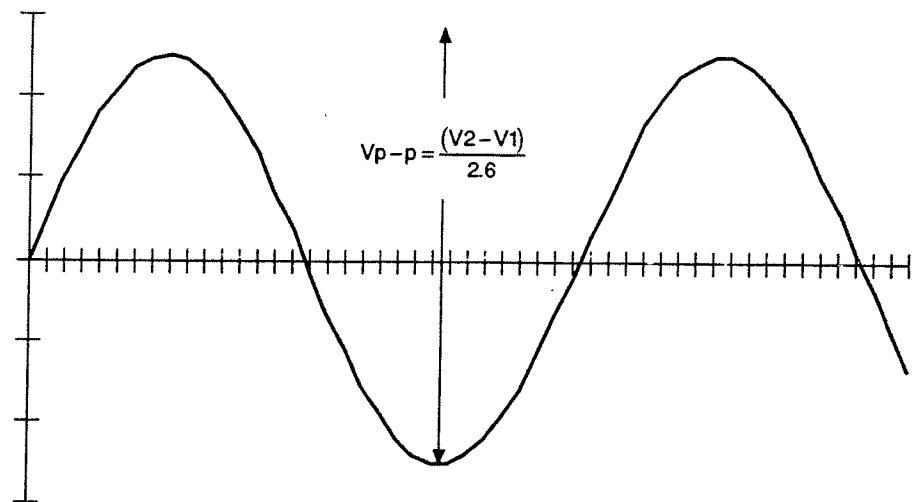

Figure 2.6 — External Modulation Signal
2. To vary the attenuation level remotely, an external voltage source with zero offset and a peak-to-peak range of $(V2 - V1) / 2.6$ is required. With the external source connected to an oscilloscope make the proper voltage adjustments. If external modulation is desired, the source frequency should not exceed 12.5 Hz for full modulation depth. Figure 2.6 shows an sinusoidally varying input voltage of the proper amplitude.